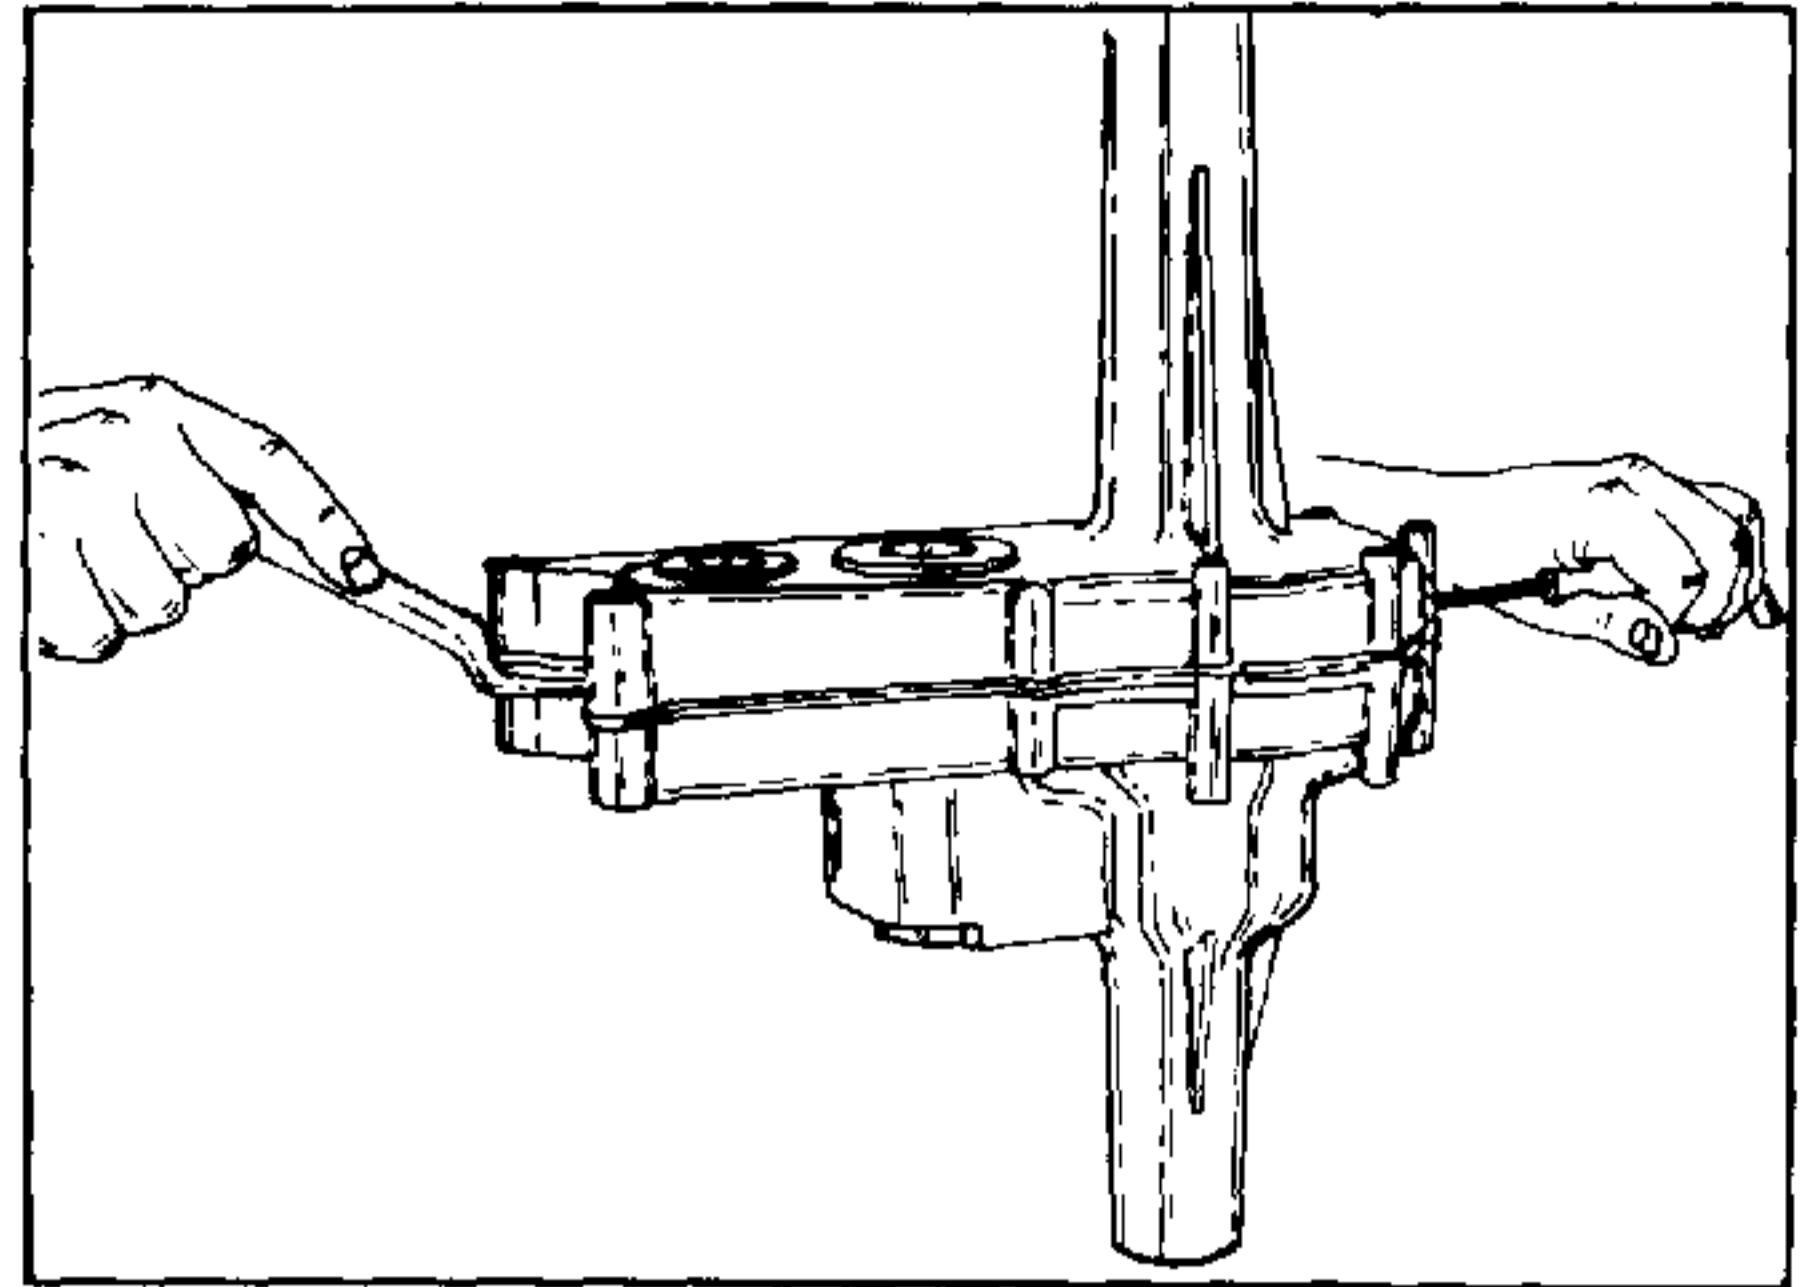

FIGURE 9.
5.12 Carefully pry halves apart in areas shown in figure 9. Caution! Do not nick mating surfaces. Tap lightly on drive shaft with a brass hammer as needed.